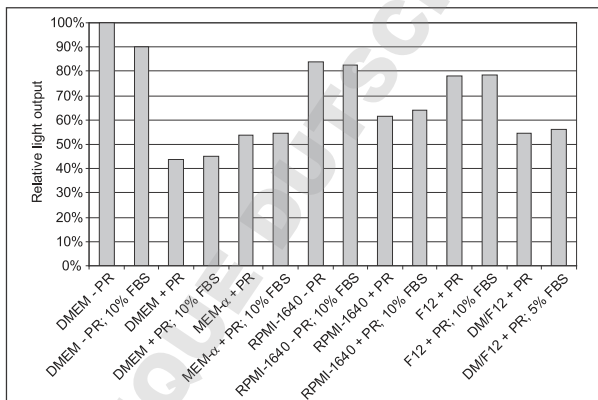
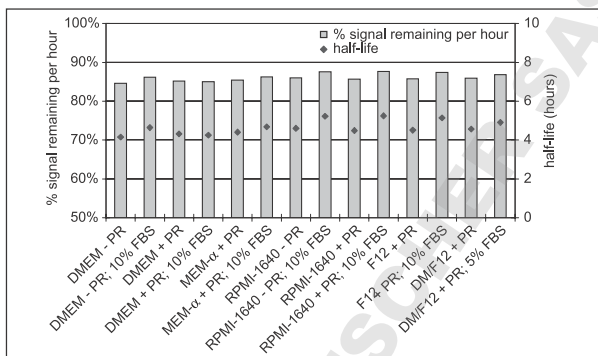

Figure 4: Relative light output in different media
Figure 5: Signal stability in different media expressed as a percentage of signal remaining per hour and half-life (hours)
To assess the influence of different culture media on luminescence light output, the following experiment was performed using commercially available basal media in the presence and absence of Fetal Bovine Serum (FBS) and Phenol Red (PR). 100 μL *steadylite plus* was added to 100 μL samples of the different media in a white 96-well OptiPlate, where each sample contained luciferase at a concentration of 2×10^{-9} gram per mL. After shaking the plate, the light output was measured using a TopCount NXT. Figure 4 illustrates the results of the relative luminescence after 15 minutes count delay. Figure 5 shows the results of the stability of the signal as a function of the culture media used.
The results from Figure 4 show that the light output is to some extent affected by FBS but that Phenol Red has a much larger impact on the light output reflecting the concentrations of Phenol Red in the basal media. Consequently the use of Phenol Red in culture media should be avoided to attain the highest signal. The stability of the luminescent signal is only somewhat dependent on the media as shown in Figure 5.
- Phenol Red, as well as other colored compounds, will chemically not interfere with the Luciferin/Luciferase reaction, but will quench some of the emitted light, resulting in lower assay signals (see Figure 4). For optimal light output, the culture medium can be substituted with **Dulbecco's PBS containing calcium and magnesium ions** prior to the addition of steadylite plus.